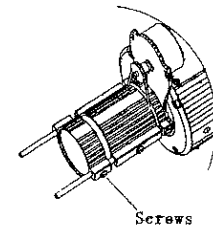

Figure 5
1. Loosen the two screws as shown in figure 5.